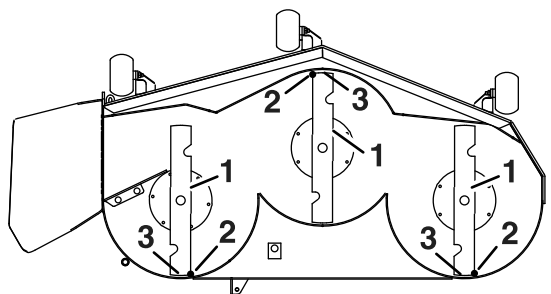

Figure 121
7. Check the front-to-rear blade level (Figure 121). Ensure the front blade tip is lower than the rear blade tip as shown in the block height and rake table. If it needs adjustment, continue with this procedure.